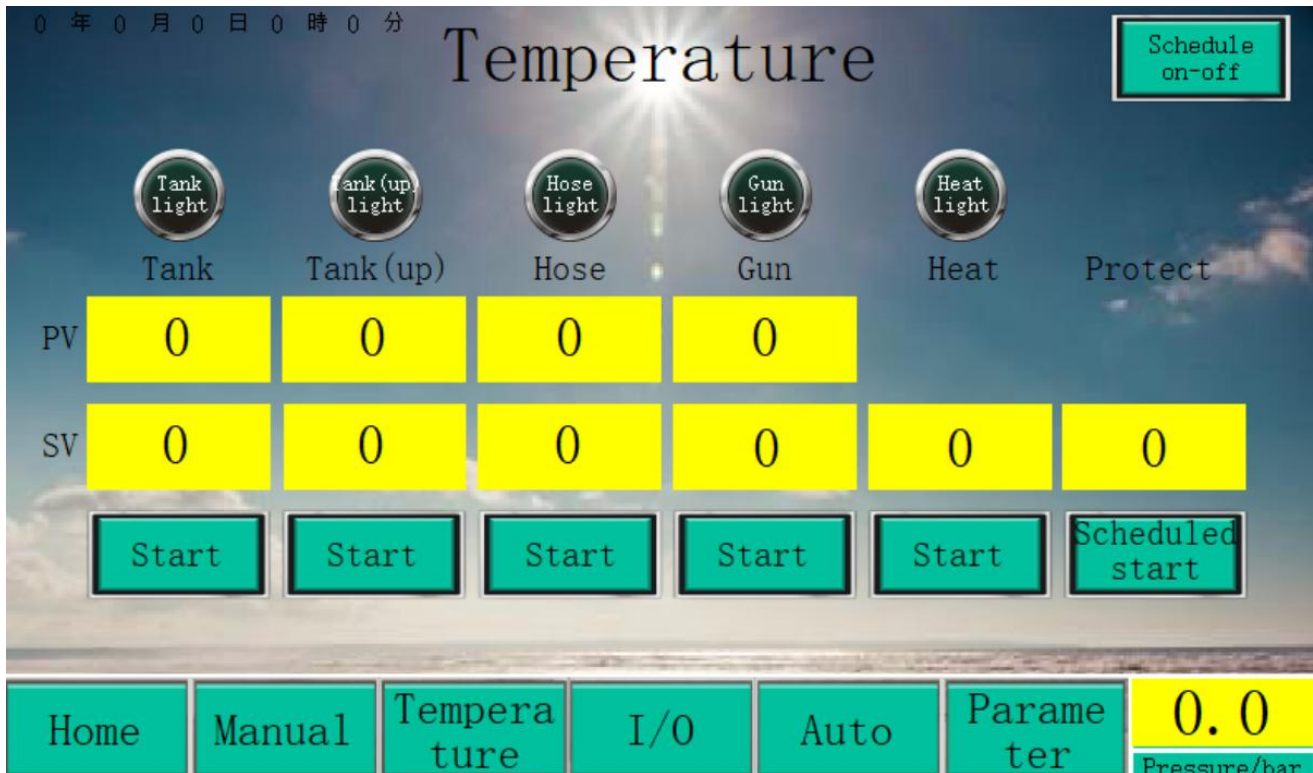

Figure 3: Temperature Control Mode
2. Advance the manual screen to select Gun holder advance., ensuring the adhesive gun maintains a downward thrusting position (Figure 3).